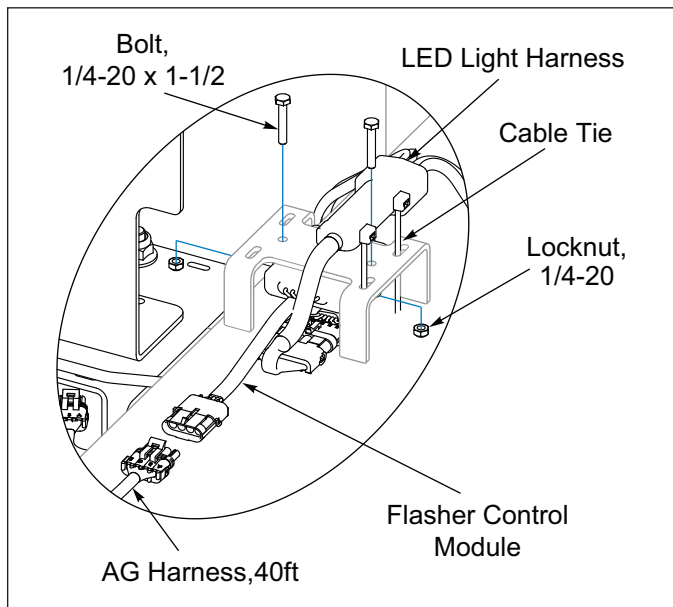

Figure 2-37: Flasher Control Module
3. Attach the Flasher Control Module to the Module Bracket on the RH Frame Inner rear tube using two 1/4-20 x 1-1/2 Bolts and Locknuts. See **Figure 2-37**.